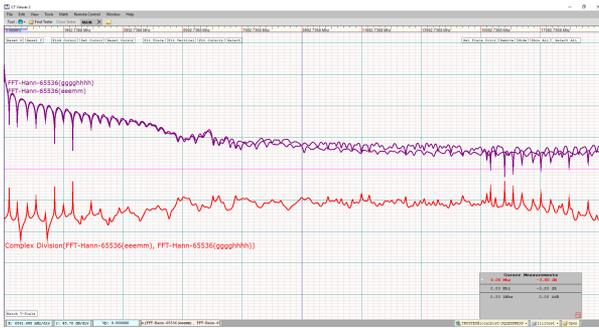

Figure 5.37 Getting the Complex Division of two FFT traces. The Complex Division is shown in red.
3. A new trace will be generated that is the negative complex division between the primary trace and the secondary trace (Figure 5.37).